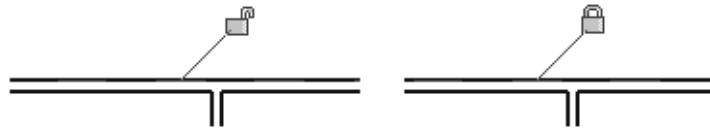

Figure 2–61
- You can lock alignments so that the elements move together if either one is moved. Once you have created the alignment, a padlock is displayed. Click on the padlock to lock it, as shown in Figure 2–61.